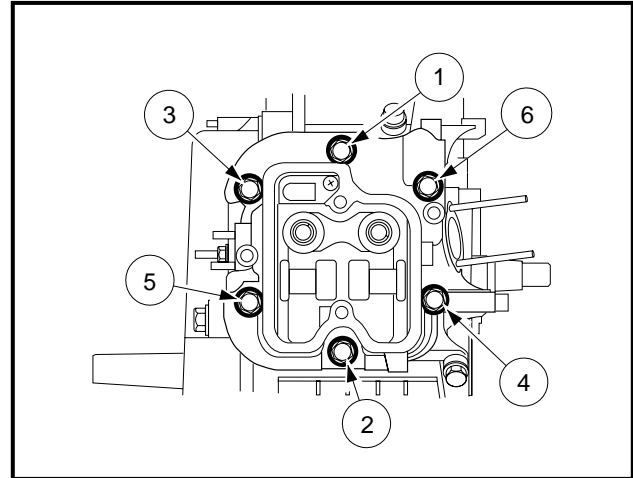

Figure 13-37 Cylinder Head Bolt Tightening Sequence
6. Using a torque wrench, tighten the six bolts in the sequence shown (**Figure 13-37, Page 13-20**).